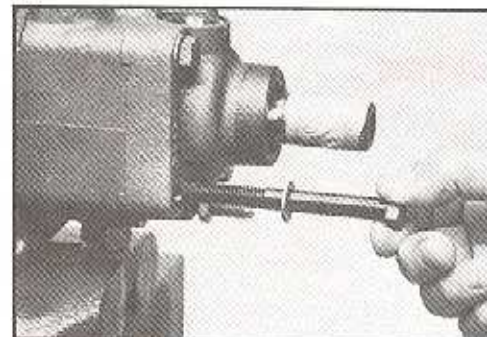

Figure 126
21. Assemble four upper cover bolts (7A) and washers (7B). Carefully tighten the bolts while checking that the adaptor (20) valve assembly (18) and upper cover (7) faces are properly piloted and positioned with all seal rings in place. Torque bolts to 25-35 ft. lbs. (34-47 N m) if dry, or 21-27 ft. lbs. (28-37 N m) if lubricated. 9/16 inch socket required. SEE FIGURE 126.